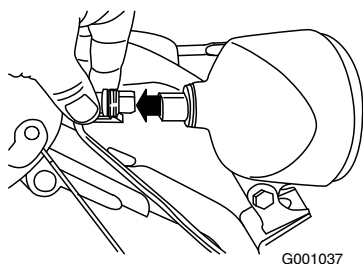

Figure 52
1. Remove the wire connector from the back of the headlight (Figure 52).